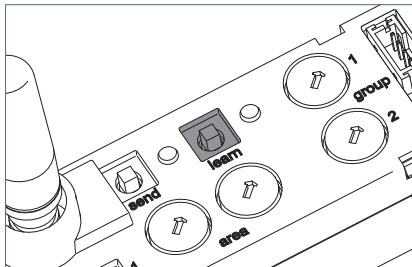

Fig. 22: "learn" key
- ▶ Press the "learn" key and keep it depressed for five to ten seconds until the "learn" LED starts flashing quickly, see Fig. 22.